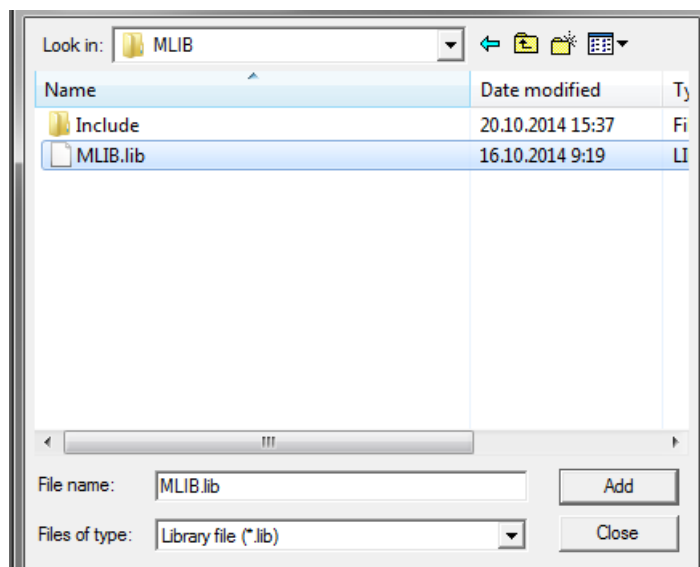

Figure 1-35. Adding .lib files dialog
5. Navigate to the parent folder C:\NXP\RTCESL\CM7F_RTCESL_4.6_KEIL\MLIB, and select the *mllib.lib* file. If the file does not appear, set the Files of type filter to Library file. Click Add. See Figure 1-35.